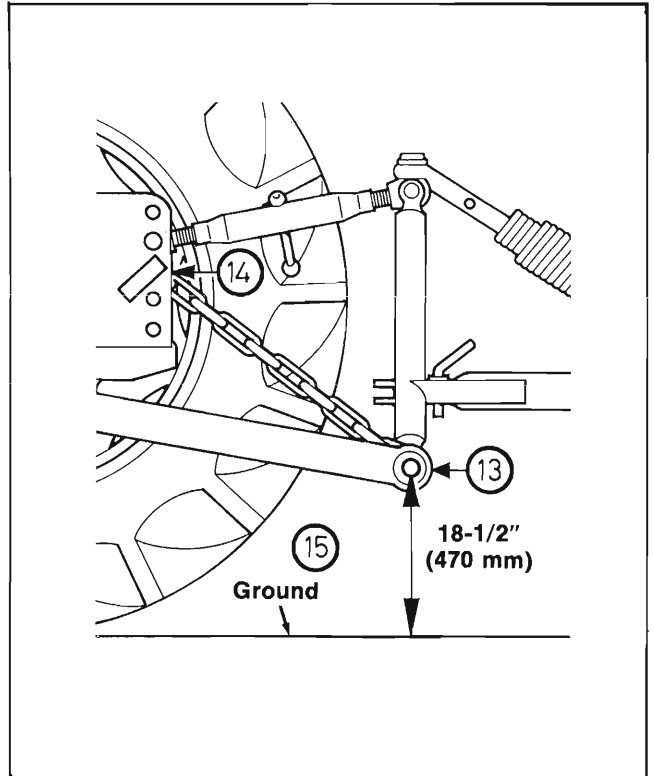

Fig. 7
9. Attach the lower ends of the Chains with the Hitch Pins (13 of Fig. 7) so that the D-Shackle is secured in one of the holes of the Toplink connector (14 of Fig. 7). The distance of the Hitch Pins above the ground should be set to 18-1/2" (470 mm) and the Limiting Chains should be taut (15 of Fig. 7).